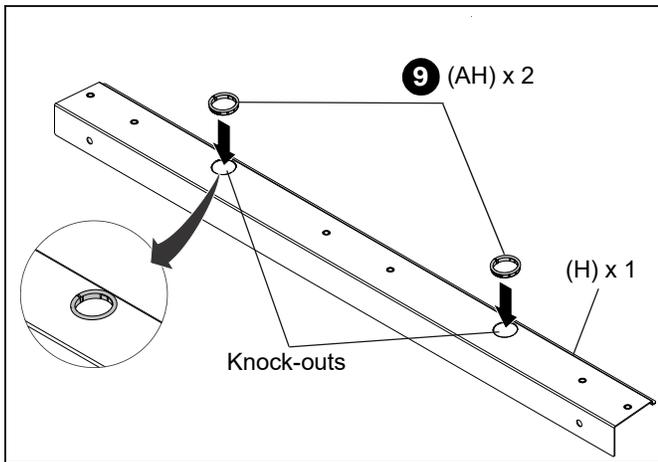

Figure 17
- CONFIGURATION 1 ONLY:** Remove the knock-out panels from both vertical covers (B) and install a grommet (AH) into the opening. (See Figure 17)